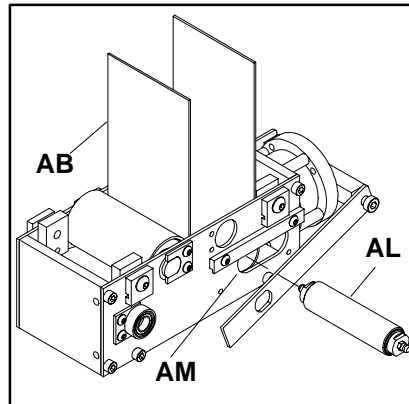

Figure 15
Remove the take-up pulley assembly (AL of Figure 15) through the access hole (AM) in the center drive module.
Re-install the take-up pulley assembly (AL of Figure 15) through the access hole (AM) in the center drive module.